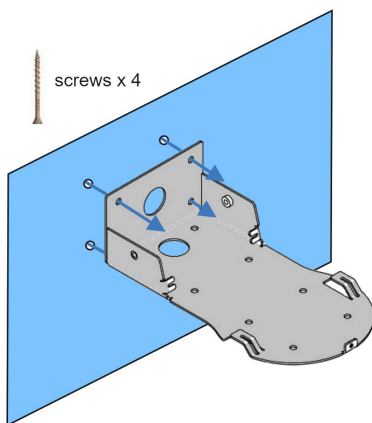

Figure 9: Screws and plugs
4. Put the cable cover over the back of the bracket, neatly concealing the cables and connectors of the camera. The cover cap can be screwed in place using the supplied M6 Allen bolts (Figure 9) for the MT300.